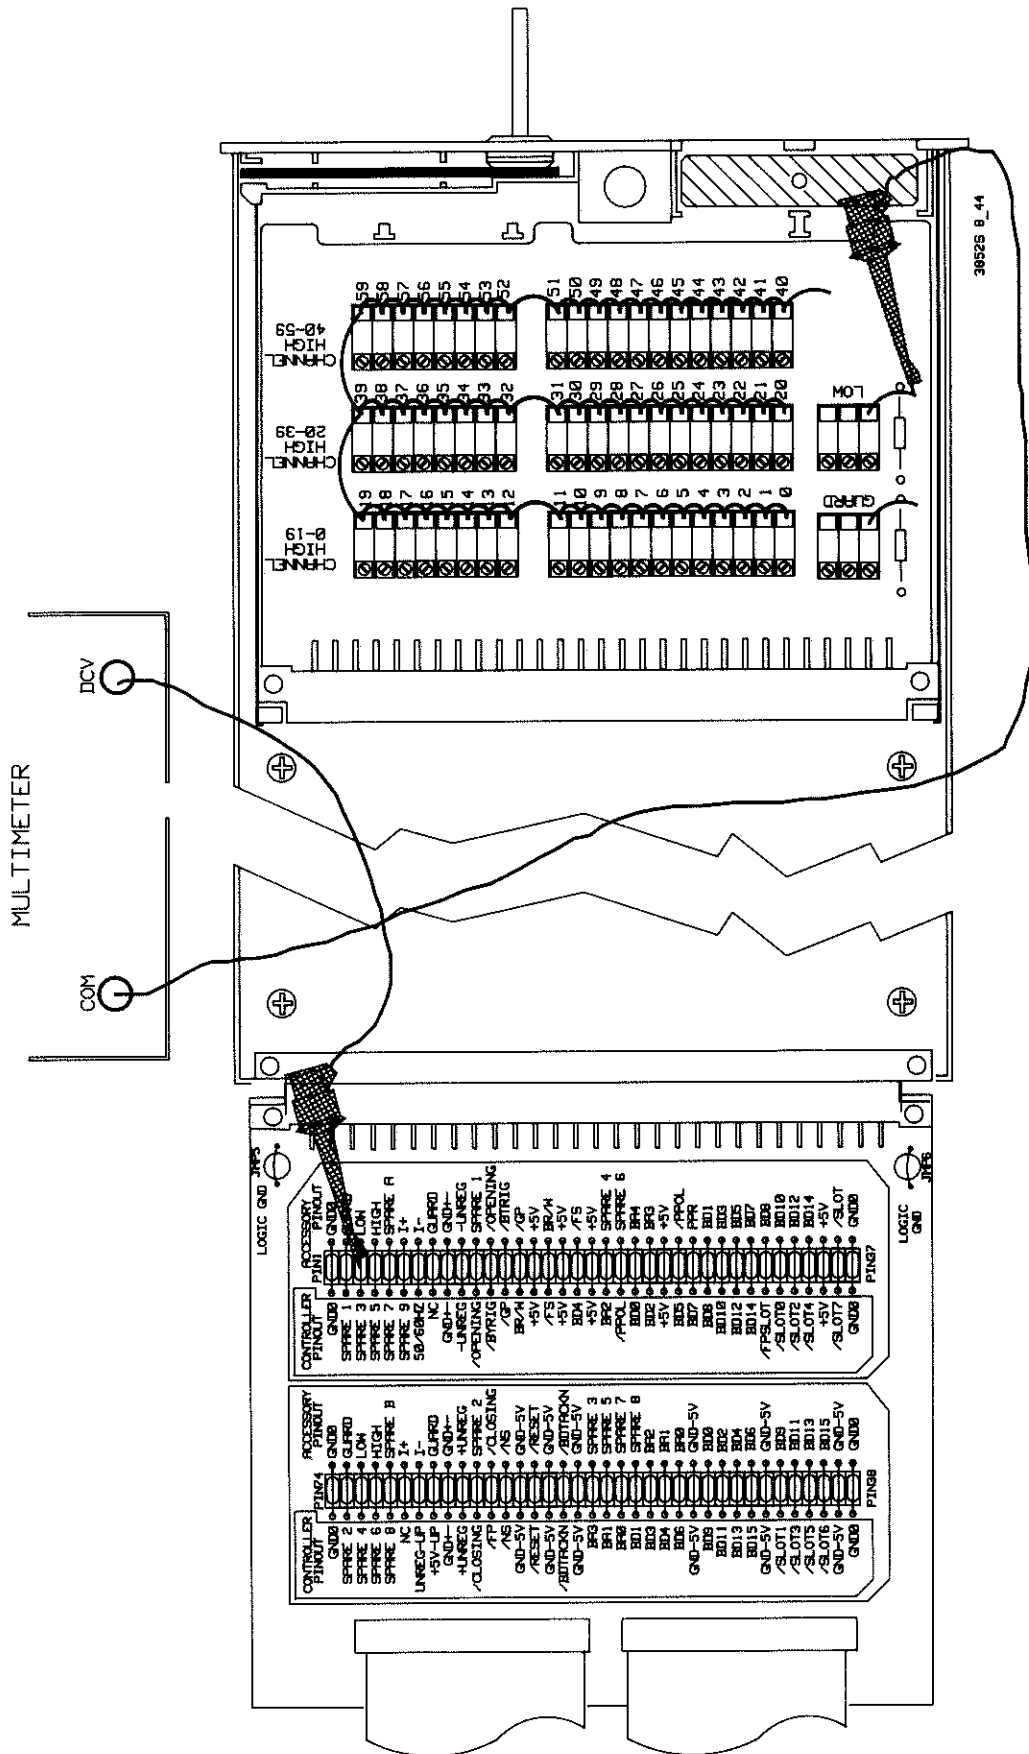

Figure 8-46 HP 44706A LOW Lines Thermal Offset
8. Refer to Figure 8-46. Connect the multimeter between the LOW lines test connection on the test fixture and the backplane analog bus LOW connection on the service module.